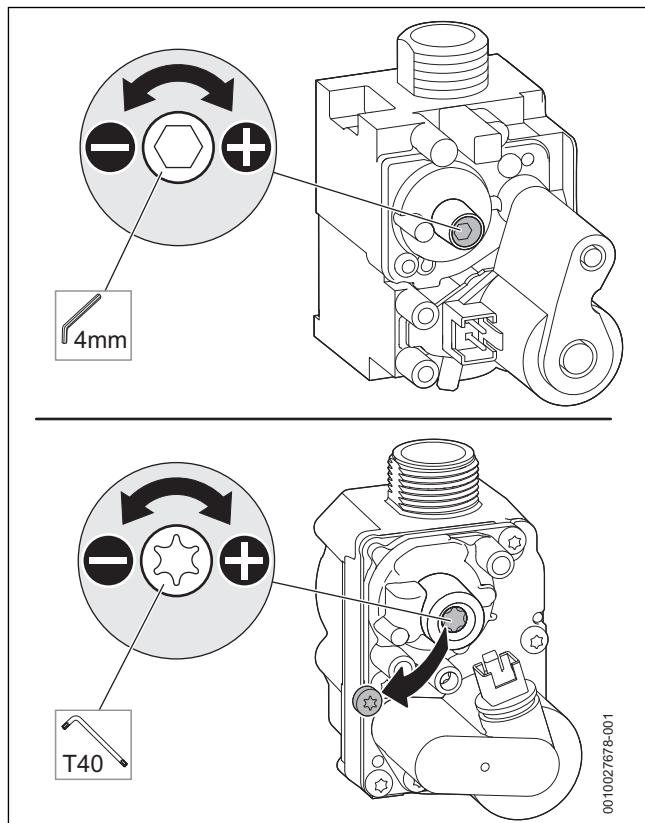

Fig. 77 Setting the CO₂ or O₂ content (above: SIT valve, below: Honeywell valve)
- Remove the seal from the adjusting screw of the gas valve (only gas valve is shown in the below Figure 77) and set the CO₂ or O₂ content for minimum rated output.